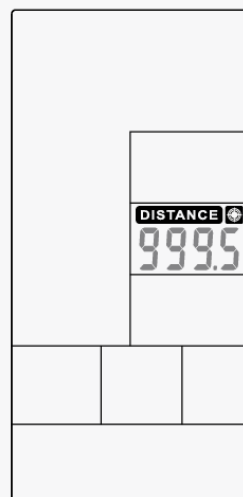

Figure 41
2. DISTANCE  value is flashing, press UP and DOWN to adjust (Figure 41). Press ENTER to confirm meanwhile buzzer beeps 1s and TARGET DISTANCE lasting lighting up.